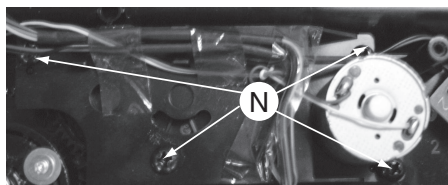

Figure 15
- 1) Loosen 4 screws "N" to remove Gear Assembly as shown in figure 15.